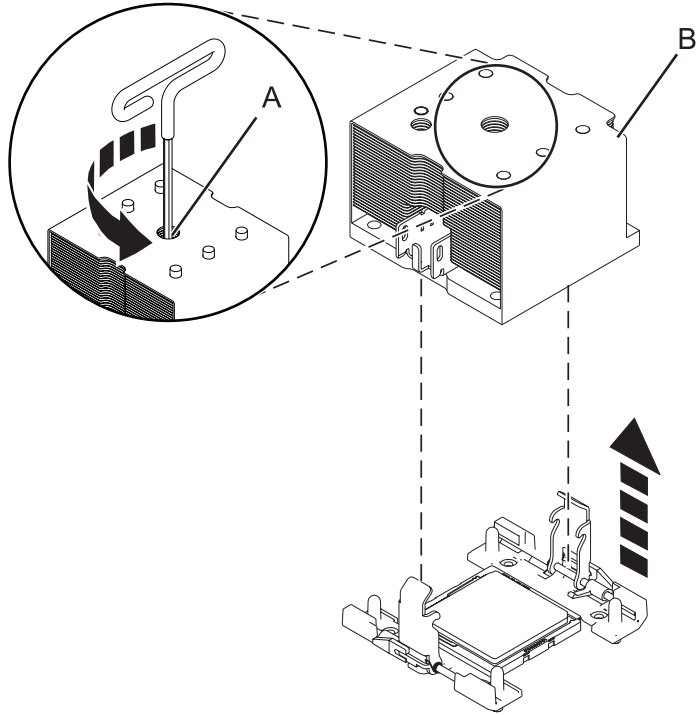

Figure 2. Removing the heat sink
- a. Loosen the heat sink actuation screw by turning the supplied hex key counterclockwise **(A)**. Loosen the screw until it moves freely. See Figure 2 on page 5.